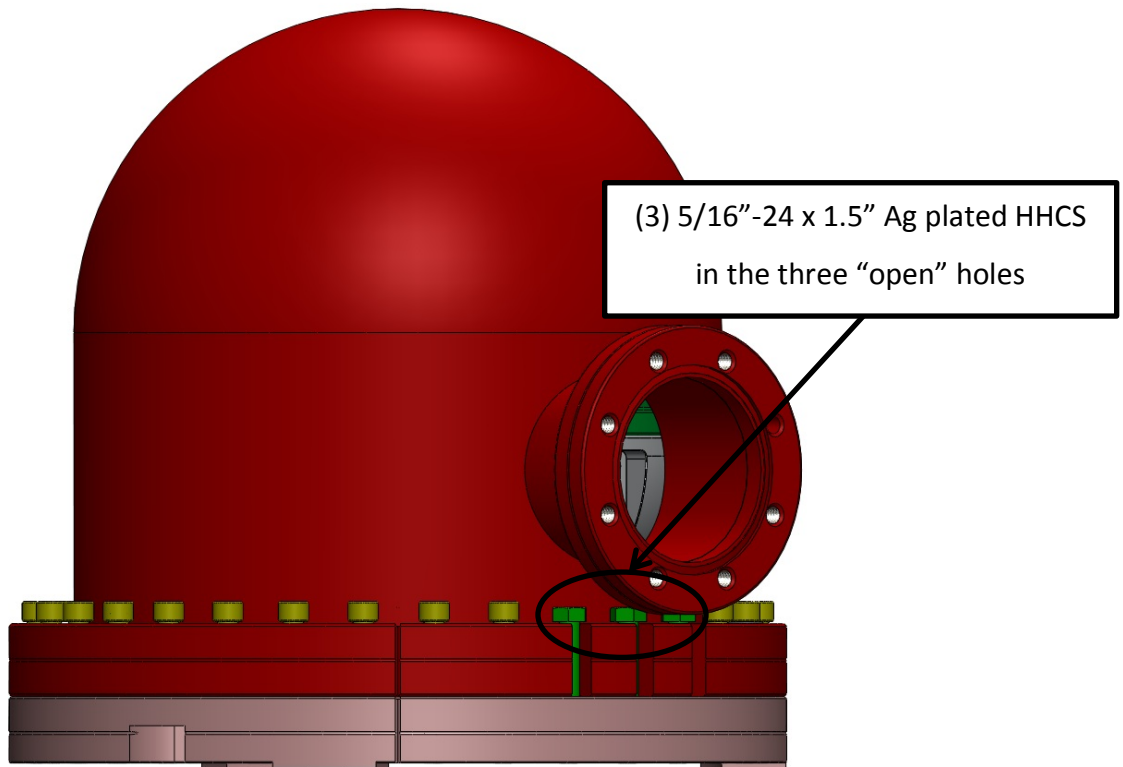

Figure 10: Trillium Pod Chamber Top Hat (D0900649) bolted down on the Trillium Pod Base Flange (D0900650)
(4) M3 Washers
8. Fasten the Trillium Pod Chamber Top Hat (D0900649) to the Trillium Pod Base Flange (D0900650) using thirty-three 5/16"-18x1.75" Ag Plated SHCS, three 5/16"-18x1.5" Ag Plated Hex Head and thirty-six 5/16" Vented Washers as shown on the Figure 10 Tighten them hand tight. Check to see that the flange faces are parallel. Tighten 2 bolts diametrically opposite to an intermediate torque value (for example 150 in.lbs), repeat this operation with 2 other bolts oriented ~ 90 degrees from the two first ones for alignment purposes. Then torque all the bolts incrementally up to final torque value, using a circular clockwise pattern (250 in.lbs, **345 in.lbs** [This torque value is higher than the Nor-Cal Spec.: 190 in.lbs, in order to make sure that the two flange faces are brought metal to metal]).